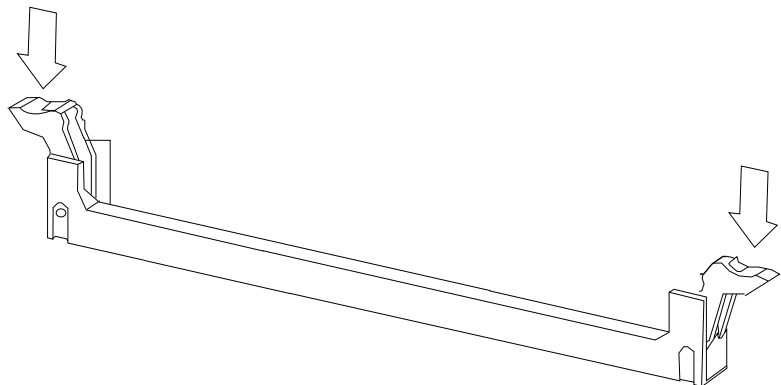

Figure D-9: Installing 32-MB DSIMM Chip in *Sun SPARCserver 5*
3. Unlock (press down) the ejector levers at both ends of the connectors (see Figure D-9).